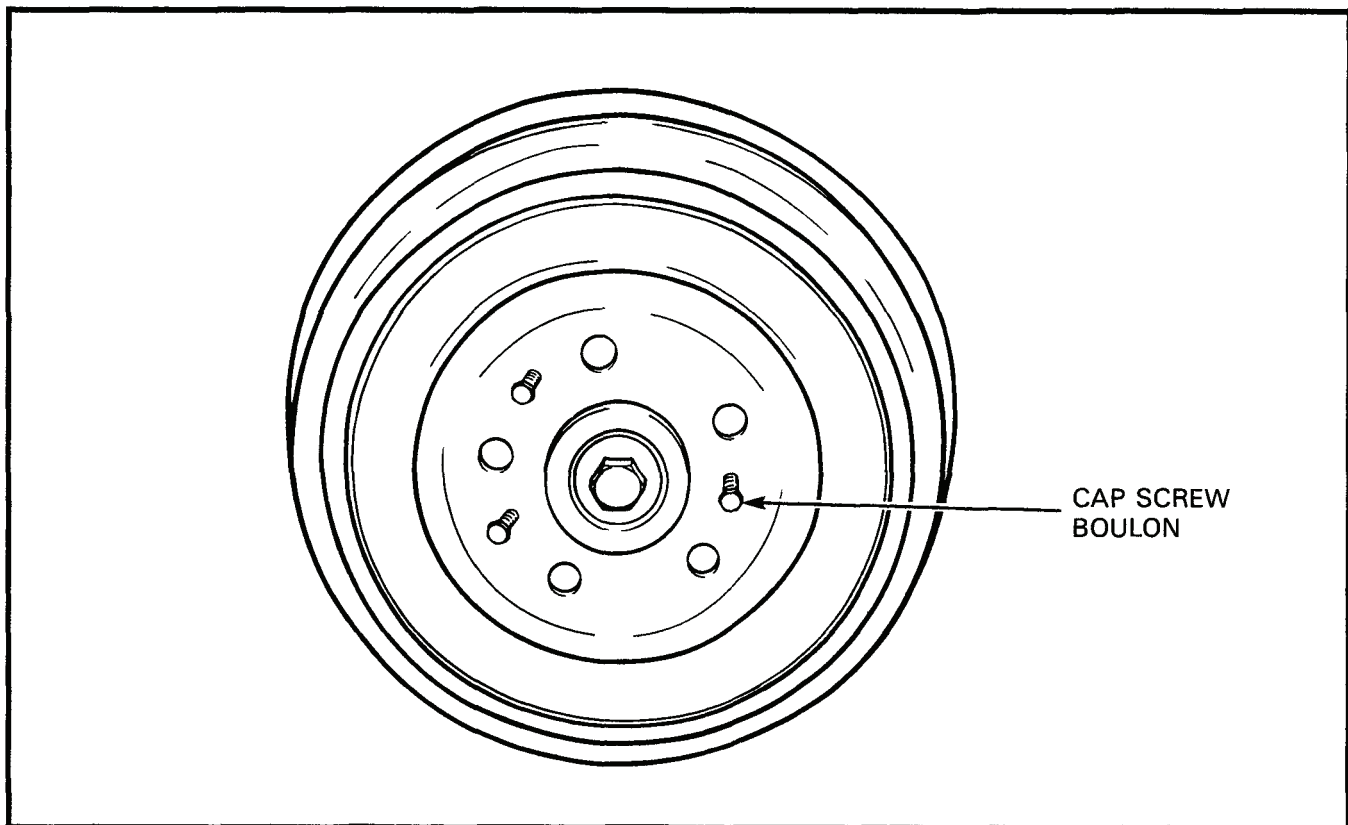

Figure 4-2-3 Removal of Brake Drum
- c. Install three 8 x 40 mm cap screws in the threaded hole of the drum and evenly tighten the cap screws to pull the drum away from the hub, see Figure 4-2-3.
- (1) A new drum has a diameter of 280.2 mm (11.04 in).
- (2) If it was scored and required turning, a maximum of 0.5 mm (0.020 in) can be taken off to bring the new diameter to 280.7 mm (11.06 in).
- c. Installer trois boulons 8 x 40 mm dans l'orifice fileté du tambour, et serrer ceux-ci uniformément pour éloigner le tambour du moyeu. Voir figure 4-2-3.